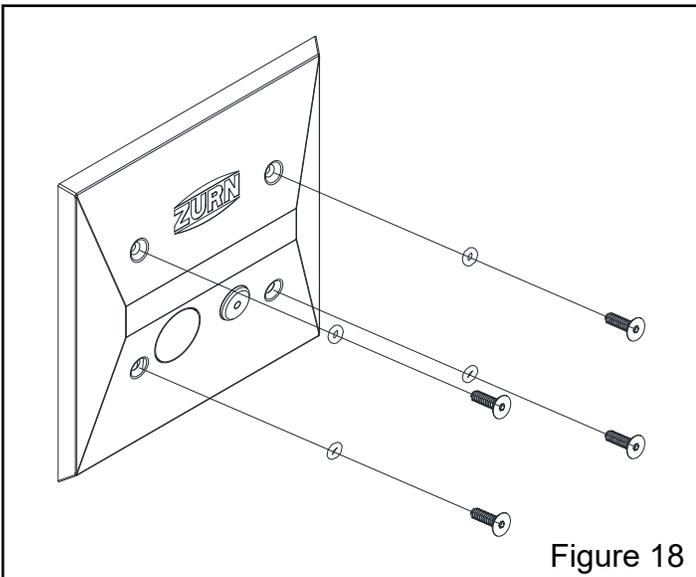

Figure 18
1. Obtain a target. SEE FIGURE 18.